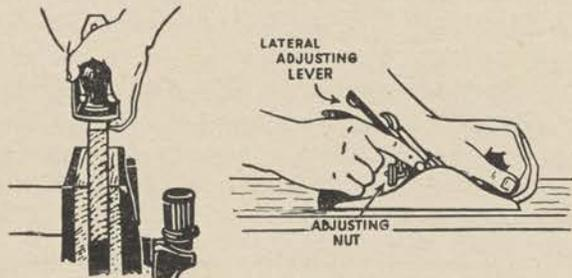

Figure 74.
*a.* Two kinds of planes will be found useful for smoothing and truing up lumber. The jack plane is designed to cut with the grain, the block plane across the grain. The jack plane is about 14 inches in length and is held in either of the two manners shown (fig. 74). The depth of cut is determined